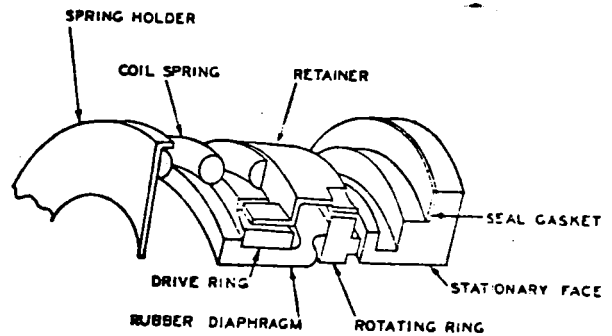

Figure 8
9. Reference fig. 8 for detailed drawing of Crane Type 21 Mechanical Shaft Seal.